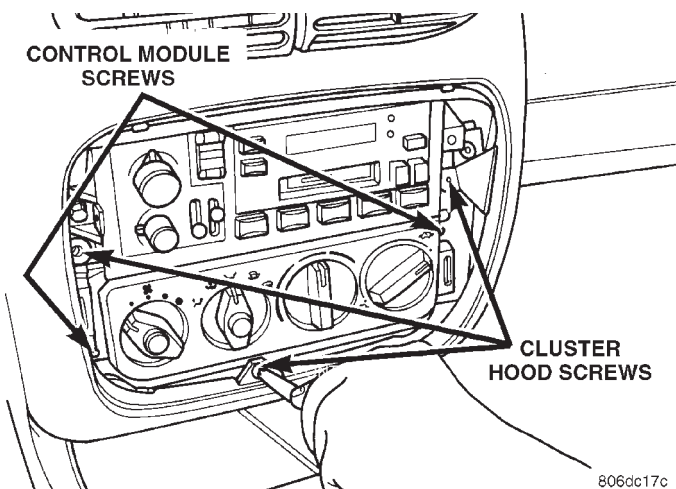
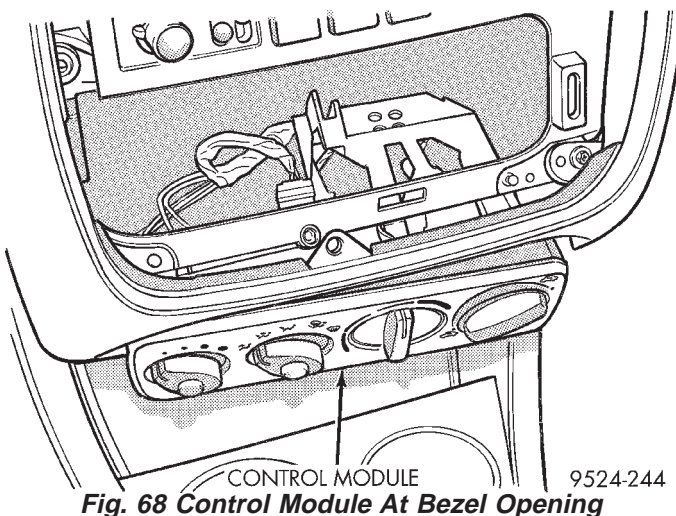
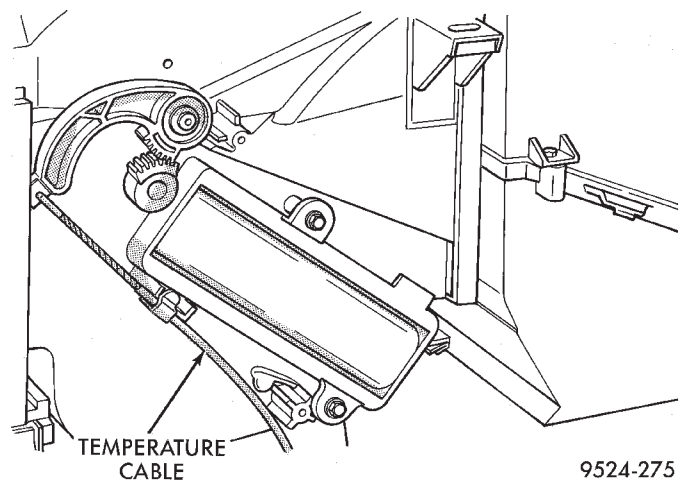

Fig. 67 Control Module Screws
Fig. 68 Control Module At Bezel Opening
Fig. 73 Temperature Cable At A/C Housing
- (3) Remove cluster hood bezel retaining screws in the trim bezel opening (Fig. 67).
- (4) Pry up the cluster hood bezel a few inches to expose the cubby bin/cigar lighter bezel screws.
- (5) Remove the cubby bin/cigar lighter bezel and wiring.
- (6) Remove the control module retaining screws.
- (7) Drop the A/C control module into the cigar lighter/cubby bin bezel opening (Fig. 68). Then disconnect the wiring on the rear of the control module.
- (8) Release the recirculation cable retaining clip from the top of the control module. Retain the clip for future use. Then disconnect the recirculation control cable.
- (7) Remove control module and disconnect the wire connectors.
- (8) Release the temperature control cable retaining clip from the top of the control module. Retain the clip for future use. Then disconnect the temperature control cable.
- (9) Disconnect cable at A/C housing (Fig. 73).
- (10) Remove cable core end from temperature actuator lever.
- (8) Remove cluster hood bezel retaining screws in the trim bezel opening (Fig. 67).
- (9) Pry up the cluster hood bezel a few inches to expose the cubby bin/cigar lighter bezel screws.
- (10) Remove the cubby bin/cigar lighter bezel and wiring.
- (11) Remove the control module retaining screws.
(12) Drop the A/C control module into the cigar lighter/cubby bin bezel opening (Fig. 68). Then disconnect the wiring on the rear of the control module.
(13) Release the cable clips from the top of the control module. Retain the clips for future use. Then disconnect the temperature control and recirculation control cables.
- (14) Remove the control module.
- (15) Remove upper instrument panel bezel.
- (16) Remove right and left instrument panel end caps.
- (17) Remove left lower knee bolster. Disconnect mode door motor wiring.
- (18) Remove right and left interior door post kick panel.
- (19) Remove front and rear halves of floor console.
- (20) Remove the radio.
- (21) Remove right side lower silencer/duct.
- (22) Remove glove box assembly.